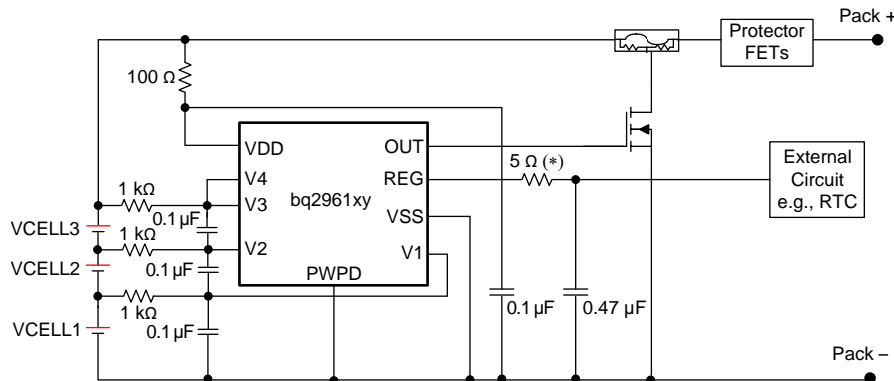
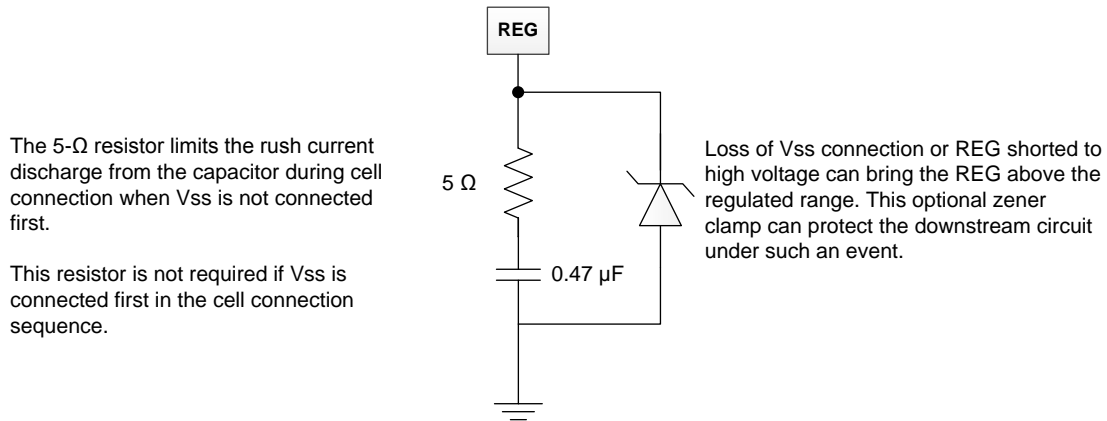

Figure 17. 3-Series bq2961xy Schematic
Figure 18. 5-V Zener Diode
1. If VSS pin cannot be connected first, it is required to add a resistor of a minimum of 5 ohms to a maximum of 10 ohms (a 5-ohm resistor is used in the reference schematic, Figure 17) in series with the REG capacitor. When VSS is floating, the REG capacitor always charges up to the VDD voltage. When VSS is finally connected, the REG capacitor will be discharged. Adding a small resistor in series reduces the current strength and avoids any potential damage to the REG pin. The 5-ohm resistor can be placed in series with the REG connect circuit (as shown in Figure 17) or in series of the REG capacitor (as shown in Figure 18). Placing the resistor in series with the REG circuit results in a small drop of VREG (for example: max loading of 1 mA with a 5-ohm resistor will drop 5 mV on VREG), but such a connection can protect against rush current discharge from both REG capacitor or external filter capacitor connected to the REG pin. Placing the resistor in series with the REG capacitor is an alternative to avoid additional drop in VREG if the filter capacitor used by the external circuit is much smaller than the REG capacitor.
3. Cell should be connected to the lower Vn pin; the unused Vn pin should be shorted to the (Vn-1) pin. See Figure 17 for details.
4. A zener diode can be added to the REG pin to VSS as shown in Figure 18. This is recommended to protect the circuit connected to the REG pin if floating VSS in the field is a risk concern. When VSS is floating (during cell connection when VSS is not connected first or in system fault with BAT- wire broken), the REG voltage always pulls up to VDD. In a 4-S configuration, the REG voltage can reach approximately 16 V with VSS floating. Adding a zener diode clamps the REG voltage to a safe level for the external circuits connected to the REG pin. Having the zener diode can also protect the external circuits if REG pin is shorted to OUT pin or any other high-voltage output terminal. If a zener diode is used, it is recommended to put the diode on the battery side with the bq296xxx device to allow protection on both the REG pin as well as the circuit connected to REG under floating VSS condition. The resistor in series with the REG pin is not required in this case.